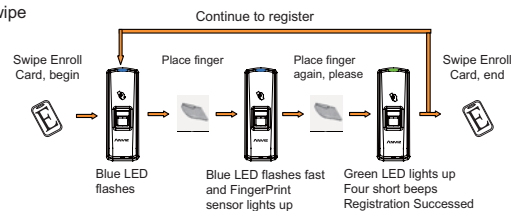

Figure 1.1
- Add Fingerprint Only: (Operation Steps show as figure 1.1)**